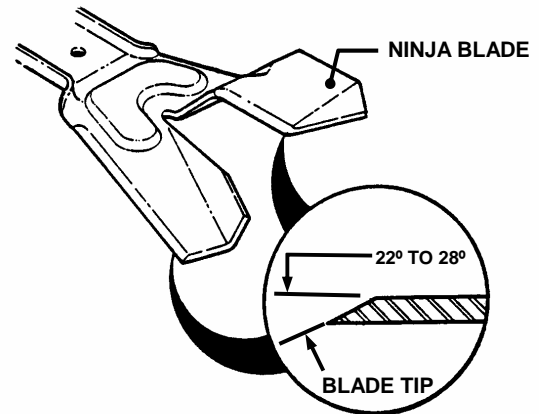

FIGURE 4.21
5. Sharpen all cutting edges of the Ninja recycling blade at an angle of 22 to 28 degrees for optimum performance. See Figure 4.21.